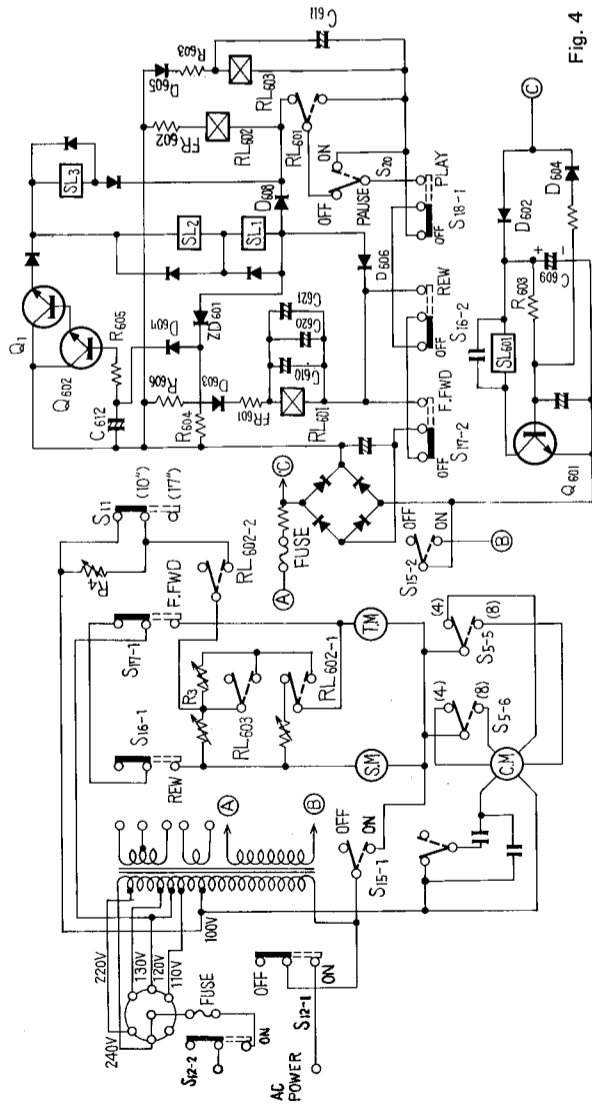

Fig. 4
3.4 CONTROL CIRCUIT (Fig. 4)
2. The playback mode turns S16-2 or S17-2 to the OFF position, thus shutting off the current now flowing in the relay. However, the relay remains activated for a short time by the discharging action of C620, C621. Relay contact RL601 is shown in Fig. 4 at the dotted line.
3.5 OPERATION BUTTONS RESET CIRCUIT (Fig. 4)
3.6 TAPE SPEED SWITCHING (Fig. 4)